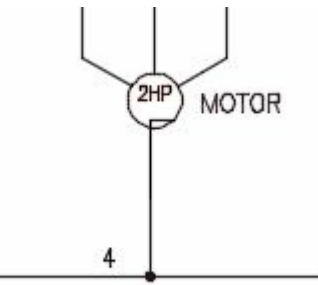

Figure-75. Wire connected to motor
- Connect the **2 HP Motor** to the ground wire using the **Wire** tool; refer to Figure-75.